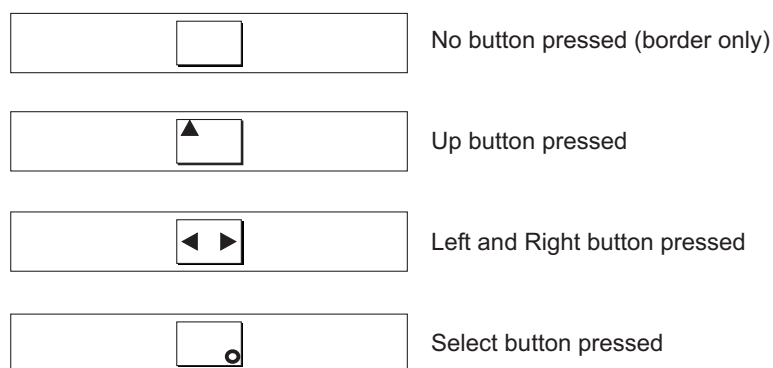

Figure 31. Front panel display when push buttons are pressed
3. Press the up, down, left, and right buttons to verify that they are working. Figure 31 shows four examples of what the front panel should display when you press the buttons. When you have finished testing the buttons, press and hold the select button for five seconds to exit the test.